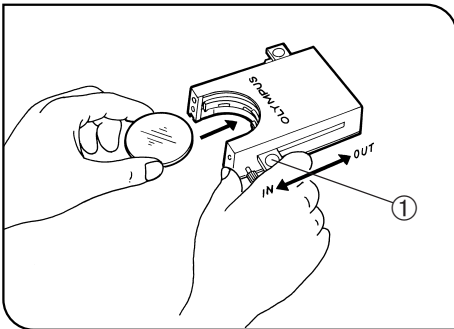

Fig. 7
**Using the Filter Cassette (Figs. 7 - 10)**
2. Slide lever ① to the IN position. Make sure that it clicks securely into place. (Fig. 7)
3. Holding the lever in the position shown in Fig. 7, put the filter into the cassette by inserting it in the direction indicated by the arrow.